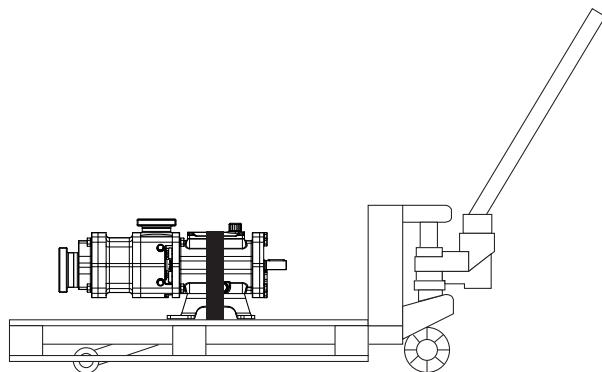

Fig. 16 Transport using lift truck
- Check whether the pump is adequately secured on the pallet. For instance using straps Fig. 16 "Transport using lift truck", Page 24.